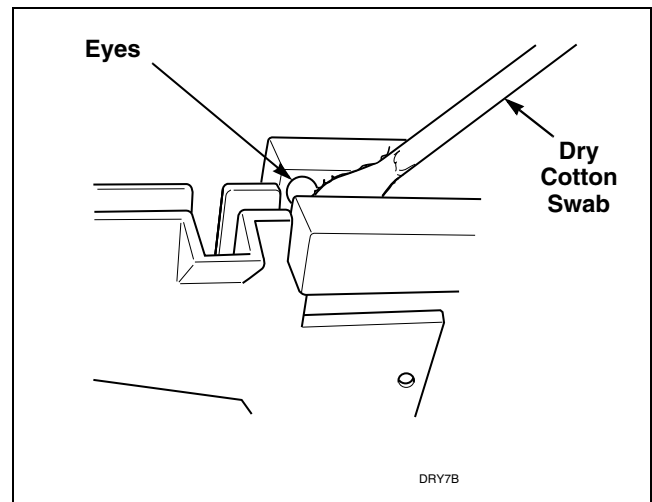

Figure 22
- j. Check coin drop sensor for dust or dirt on eyes. Wipe eyes with dry cotton swab. Refer to *Figure 22*.